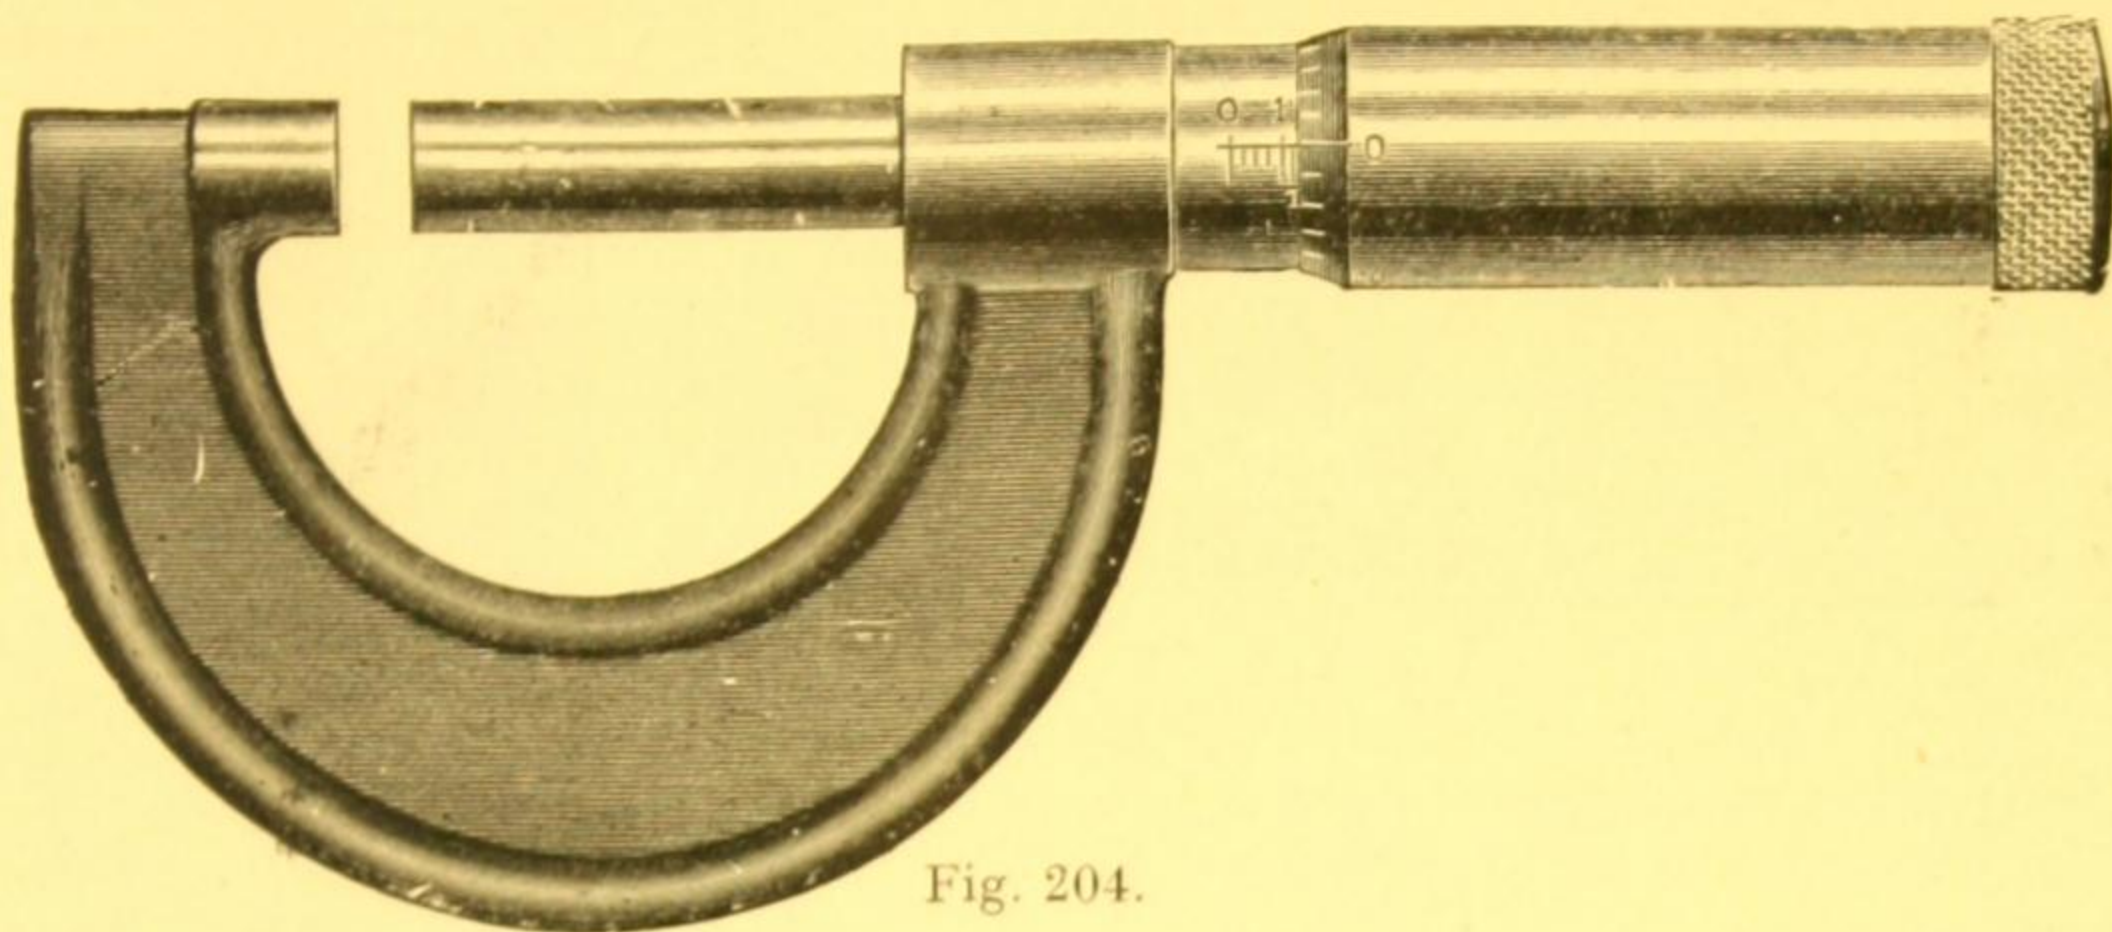

Fig. 204.
**Steel Micrometer Caliper** for making measurements by thousandths of an inch. Fig. 204. Six sizes as follows:—